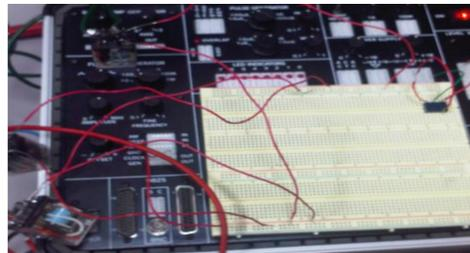

Fig.1: NC power relay & NO electronic relay
- A 'NO' relay connects the three 'NC' relays to an external 12-VDC source. 5-VDC signal from μ -controller is used to allow an external 12-VDC to energize the power relays. see fig.1.